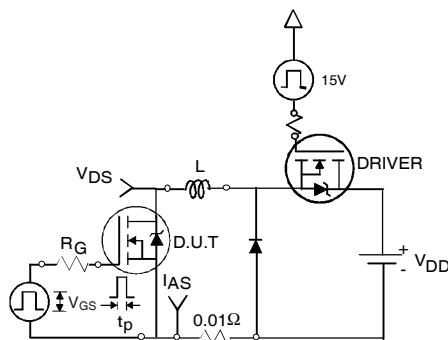

Fig 12a. Unclamped Inductive Test Circuit
- ③ $I_{SD} \leq 104\text{A}$, $di/dt \leq 240\text{A}/\mu\text{s}$, $V_{\text{DD}} \leq V_{(\text{BR})\text{DSS}}$, $T_J \leq 175^\circ\text{C}$
- ④ Pulse width $\leq 400\mu\text{s}$; duty cycle $\leq 2\%$.
⑤ $C_{\text{oss eff.}}$ is a fixed capacitance that gives the same charging time as C_{oss} while V_{DS} is rising from 0 to 80% V_{DSS} .
⑥ Calculated continuous current based on maximum allowable junction temperature. Package limitation current is 75A.
⑦ Limited by $T_{J\text{max}}$, see Fig.12a, 12b, 15, 16 for typical repetitive avalanche performance.
⑧ This value determined from sample failure population. 100% tested to this value in production.
3. Equation below based on circuit and waveforms shown in Figures 12a, 12b.